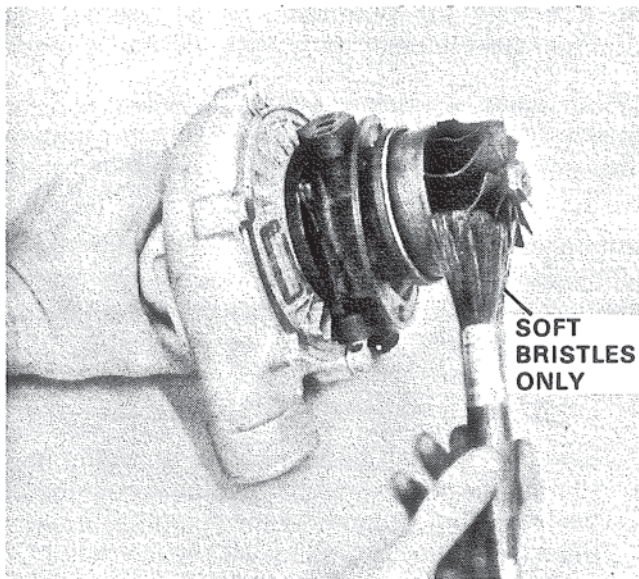

Figure 37. Cleaning Turbocharger.
2. Separate compressor and turbine housings from center housing. Figure 37. Remove clean and replace one housing at a time to protect impeller.